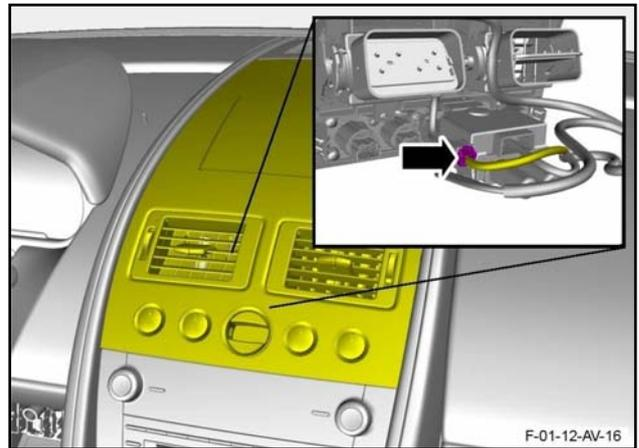

Figure 17
- 20. Connect the electrical connector to the ignition switch module (refer to Figure 17).